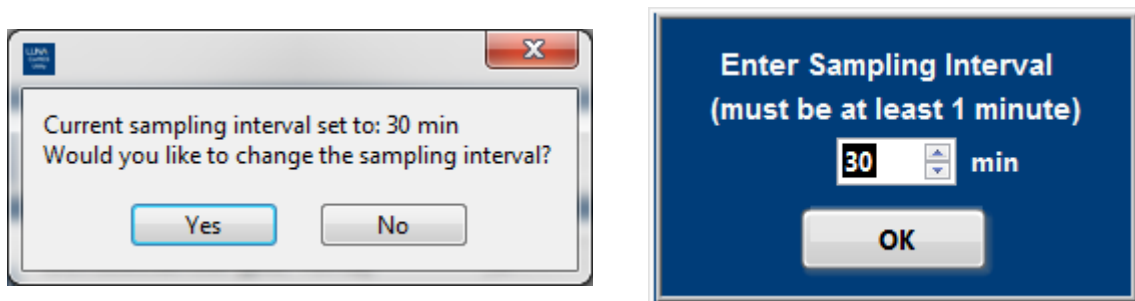

Figure 11. Indication of current sampling interval, and prompt for selecting a different interval (left). Sampling interval input window (right).
4. Set the sampling interval. Select “yes” to keep current sampling interval, or select “No” and enter a new sampling interval (Figure 11, left). Once new sampling interval is entered, select “OK” (Figure 11, right).